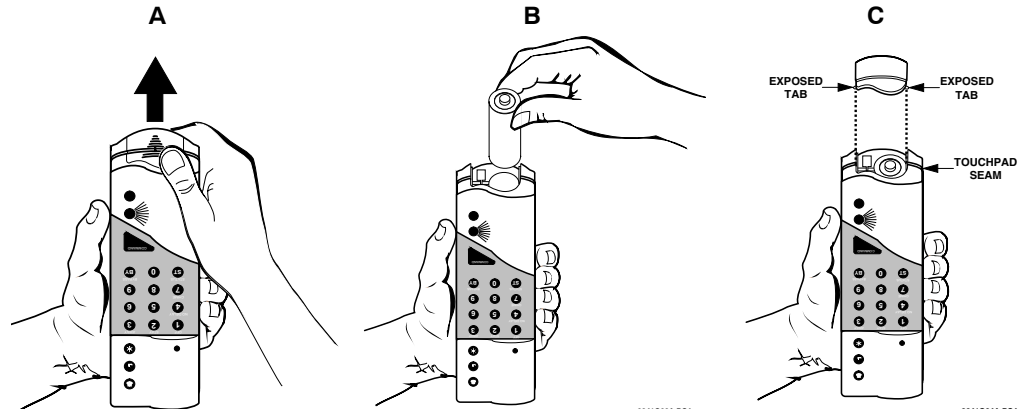

Figure 1. Installing the Battery
- ◆ Follow the diagrams in Figure 1.